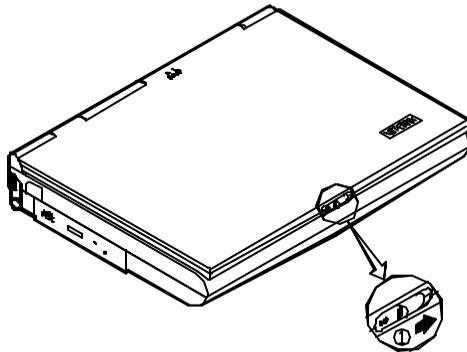

Figure 1-5
1. Slide the top cover latch to the right to release the latch (Figure 1-5).